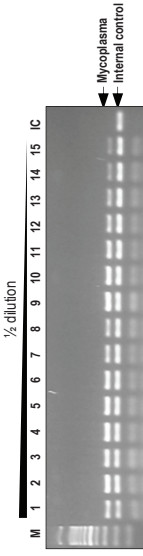

Fig. 2. Mycoplasma detection was performed using the e-Mycro™ Mycoplasma PCR Detection Kit (ver.2.0) method
- The PCR amplification efficiency varies by mycoplasma infection range. Strong mycoplasma infections are detected in as little as 10-100 cell equivalents, while weak infections require cell equivalents from the 5000-50000 range. So, we recommend that you plan various cell numbers in preparing PCR templates from the cultured cells by using the boiling method. Please refer to Fig. 2.